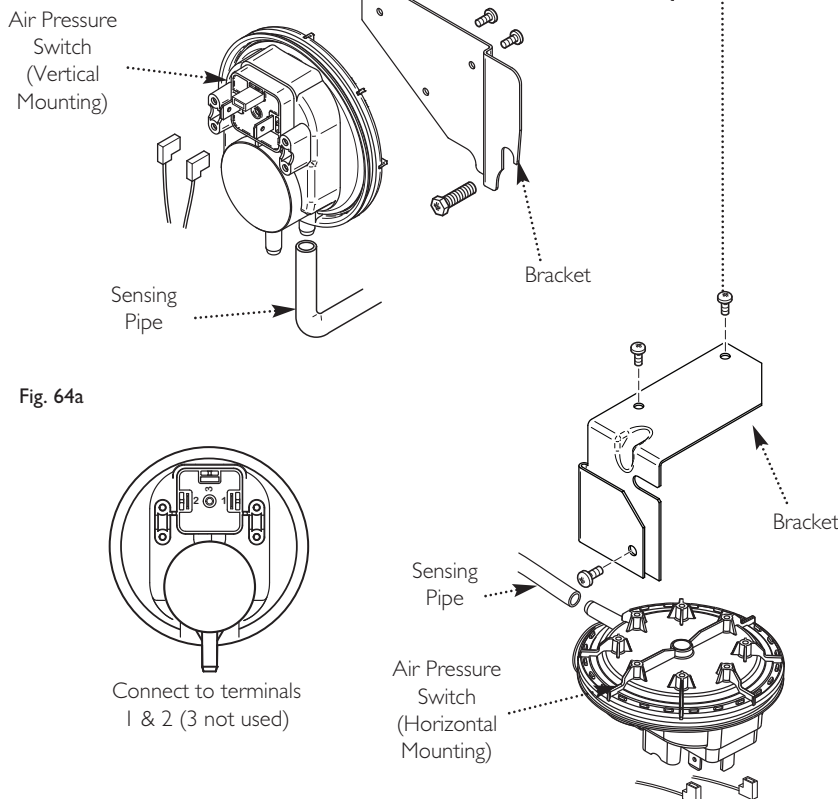

Fig. 64a
13.3 Air Pressure Switch (Fig. 64a)